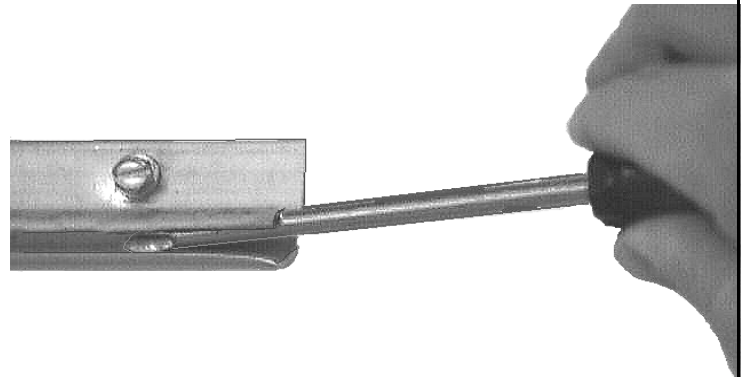

figure 1
B. Be sure the awning rail is straight. Use a screwdriver to spread open the awning rail on the side the awning will be installed into (see **figure 1**). Use a file to smooth the edges of the opening to avoid damaging the fabric.